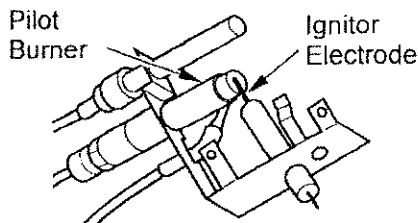

Figure 37 - Propane/LP Gas Pilot
- Press in and turn control knob clockwise  to the OFF position (see Figure 37).
- Wait five (5) minutes to clear out any gas. Then smell for gas, including near the floor. If you smell gas, STOP! Follow "B" in the safety information, column 1. If you don't smell gas, go to the next step.